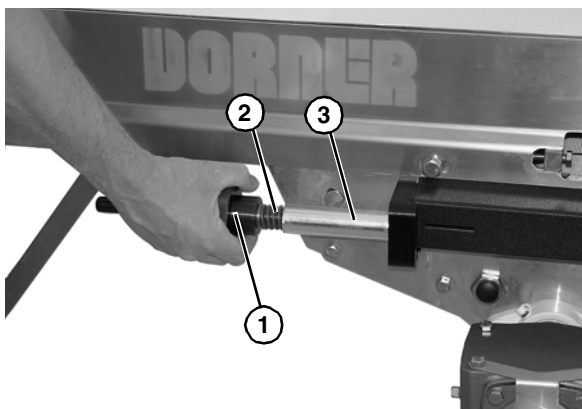
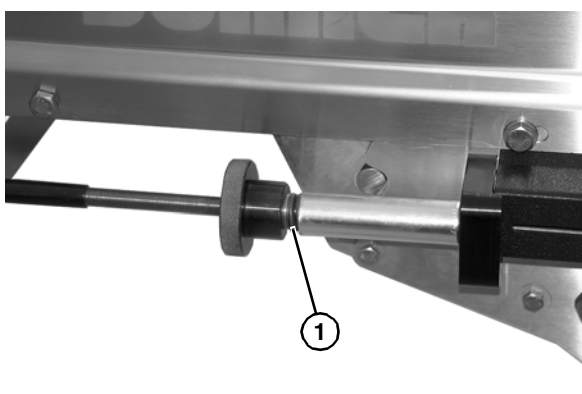

Figure 52
Figure 53
1. Turn knurled knob (**Figure 52, item 1**) on each side of center drive unit clockwise until tensioning spring (**Figure 52, item 2**) is completely behind spring cover (**Figure 52, item 3**). There should be approximately 1/8" gap (**Figure 53, item 1**) between hand knob and spring cover.
2. As normal belt stretch occurs over time, the spring (**Figure 52, item 2**) will be exposed out of the spring cover (**Figure 52, item 3**). When the spring is exposed over 1/2" or if conveyor belt slippage occurs, retighten knurled hand knob (**Figure 52, item 1**) on each side of center drive unit clockwise until tensioning spring is completely behind spring cover.